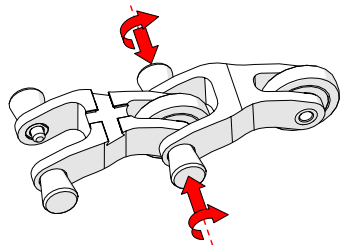

Fig. 49 - Align mounting holes
3. Twist the pins until they unlatch and extend into the hole of the connected component (Fig. 49).